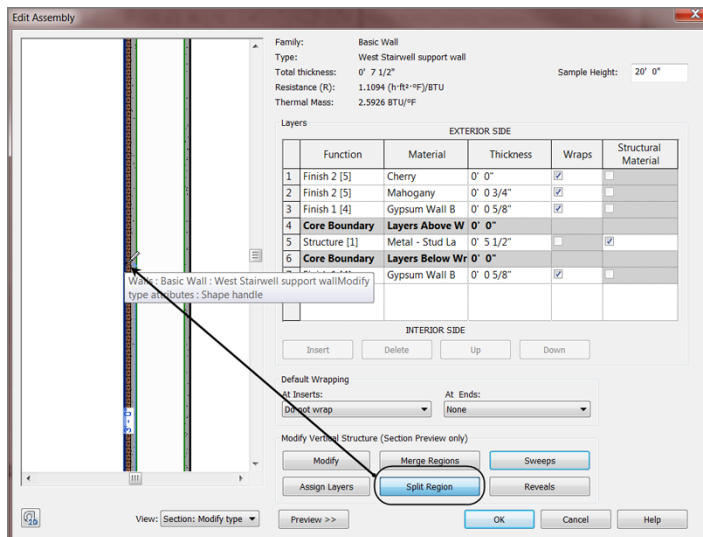

FIGURE 16.6: Cutting the plywood at a specific height
6. Click the Split Region button, as shown in Figure 16.6.
- 8. When you see 3’–0” (900mm) in the temporary dimension, pick the point as shown in Figure 16.6. *Do not press Esc when you’re finished!* If you place the split in the wrong place, click the Modify button and then select the split line you just created. You can then click the dimension field to edit the location. There is also a direction arrow that specifies whether the split is set from the bottom up (what you just did) or from the bottom down.